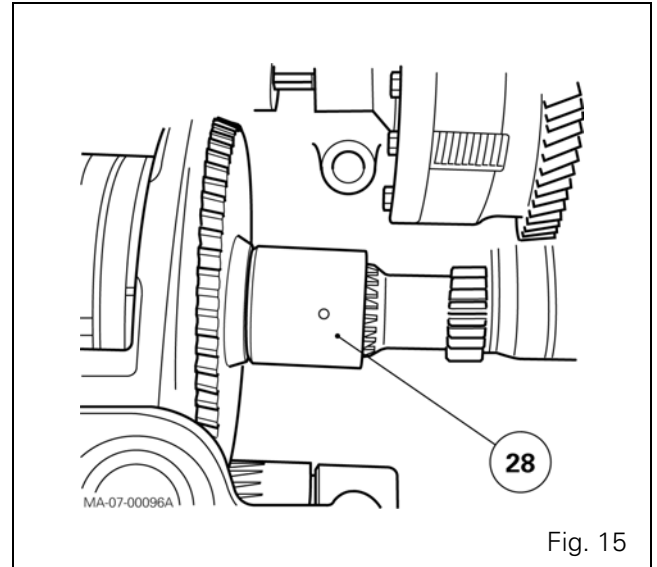

Fig. 15
- 95.** Refit the pinion (31). Refit the circlip (30).
96. Refit the fork, the sleeve assembly, the link shaft and the coupler. Fit the sleeve (28) with the long offset between the pin and the 4WD pinion turned as shown in Fig. 15. Replace the pins. Adjust the fork (see section 5).
- 97.** Refit the pinion (31). Refit the circlip (30).
98. Refit the assembly (link shaft and sleeves) then position the coupling sleeves (27) (28) on the shaft (29).
99. Fit two new double pins (25) (26) on the coupling sleeves.
NOTE: Fit the sleeve (28) with the long offset between the pin and the 4WD pinion turned as shown in Fig. 15. The long double pin is fitted on the sleeve (27).